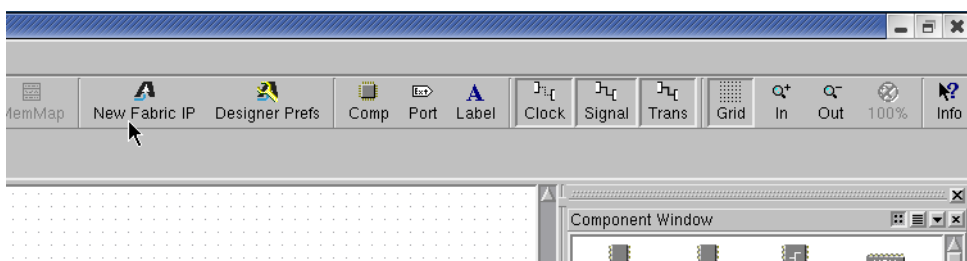

Figure 4-3 New Fabric IP selection
1. Click on the **New Fabric IP** button on the Main Toolbar, as Figure 4-3 shows. This opens the Configure new PrimeCell IP dialog box.